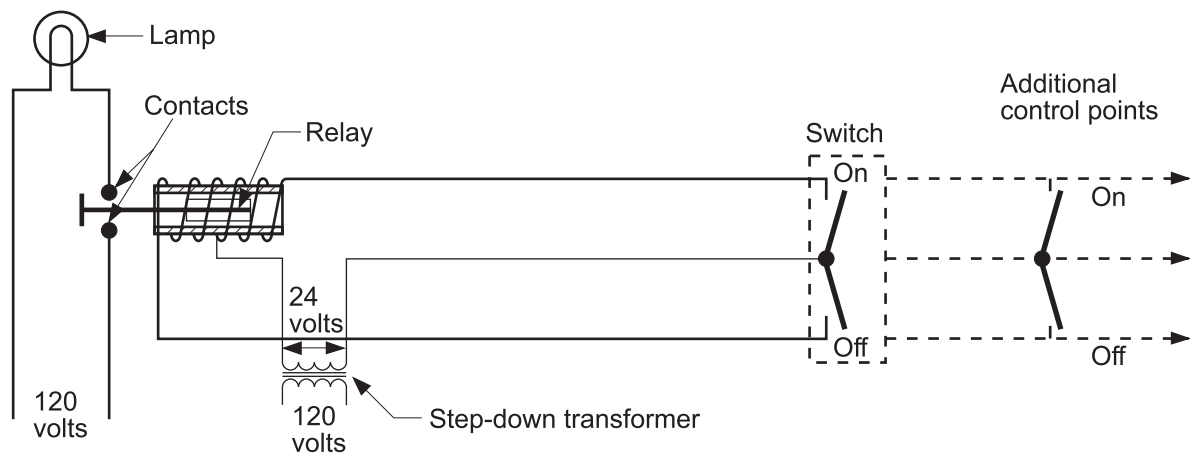

Figure 7—Simple extra low-voltage relay control circuit
14. Refer back to Figure 7 of this Learning Task. Why are the time switch and the photocell connected in series?